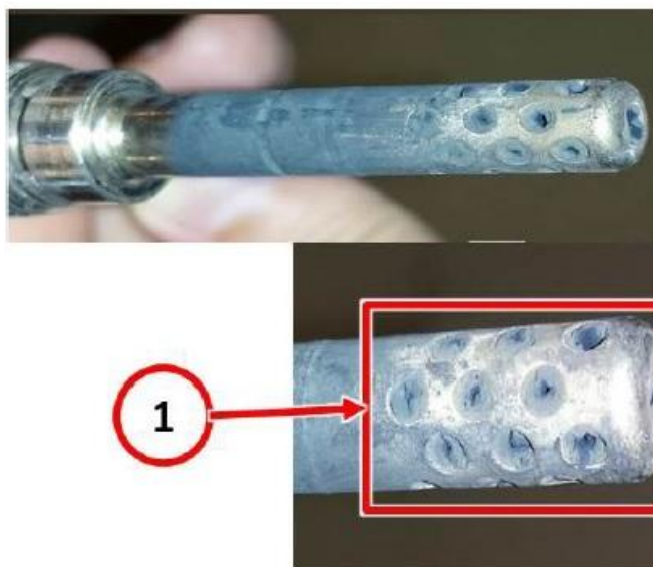

Fig. 1 EGT Sensor Bank 1 Sensor 1
11. Inspect the sensor body and probe for any signs of damage or excessive soot. See (Fig. 1).